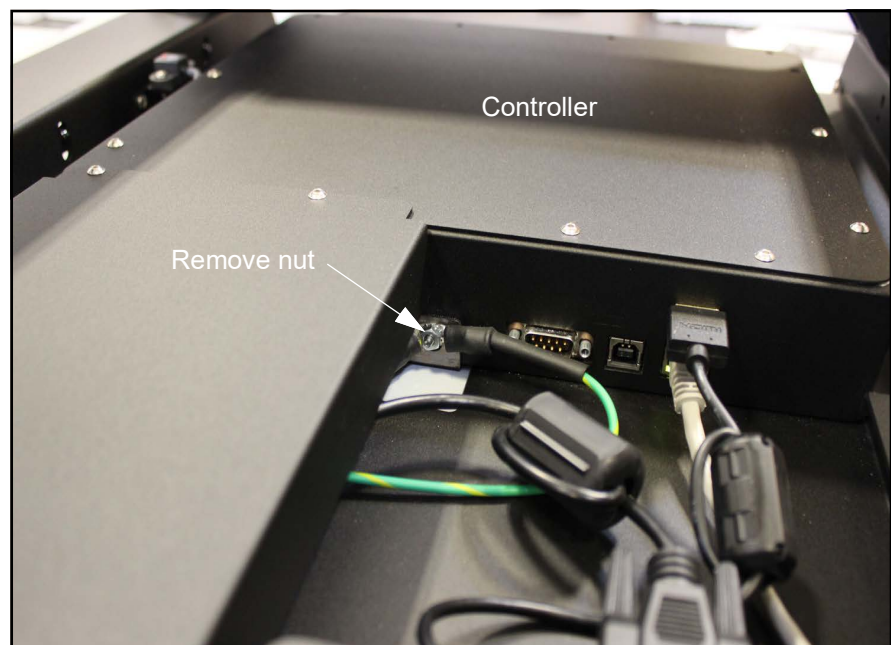

Figure 65
6. Remove the nut using a 3/8" nut driver (see Figure 65 above).